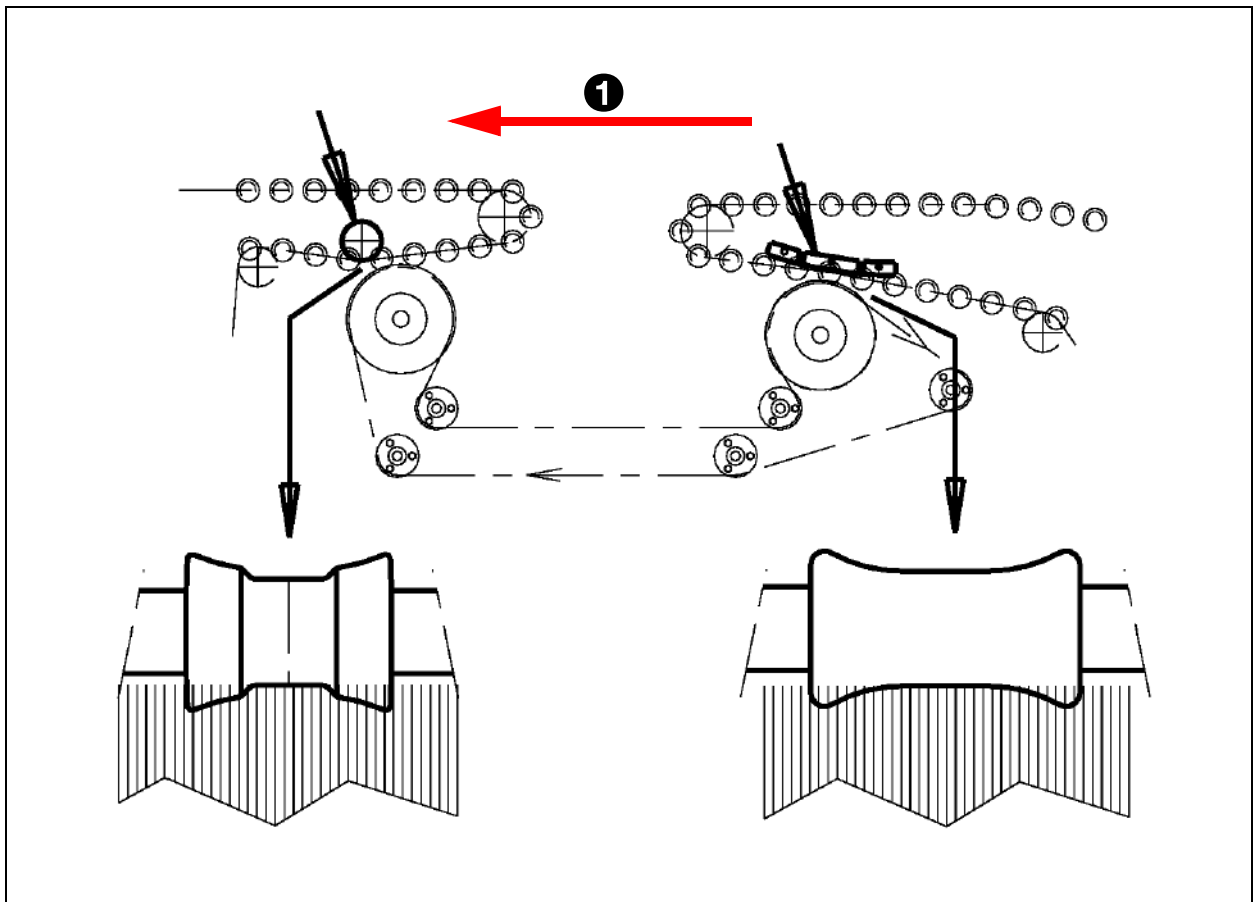

Fig. 26 - Roller cleaner unit
1. Move the guide above the broad rollers and the loop wheel above the small rollers to adjust the distance between the rollers and the brushes, see fig. 26. The brushes must just touch the middle of the rollers.
*The arrow (1) indicates the direction of the eggs' travel.*